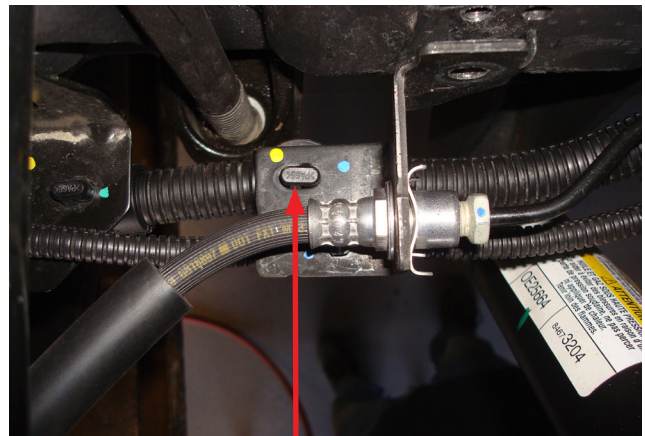
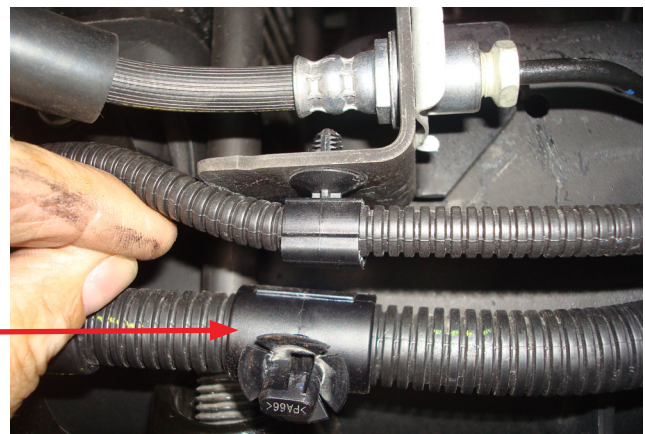

Fig. 7
Fig. 8
- Squeeze the two locking tabs on the large ABS wiring harness loom holder that is attached to the stock brake/ABS line bracket and pull out, disconnecting it from the bracket (Fig. 7 & Fig. 8). Detach the opposite side and leave loose for now.